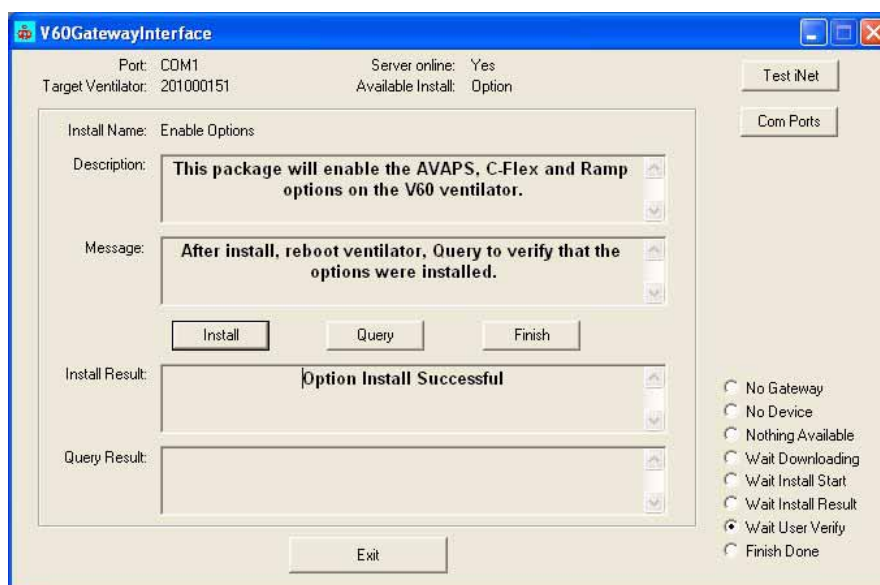

Figure A-12: Confirmation Screen
8. Touch **Misc**, then touch **Vent Info**, and verify that the Software Options are the same as the options listed on the GatewayInterface screen (Figure A-12).